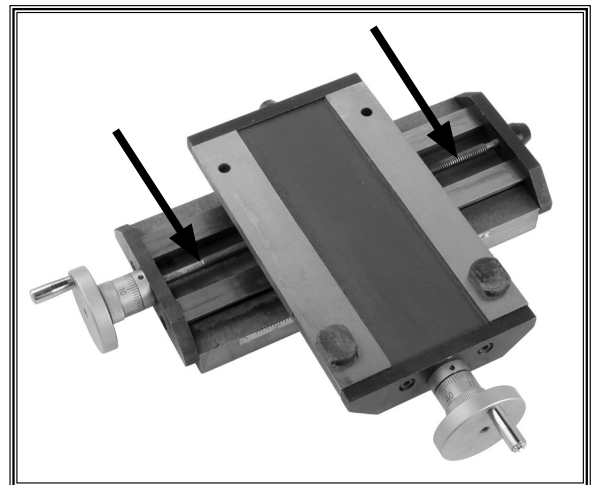

Figure 27. Longitudinal leadscrew.
- Longitudinal leadscrew (**Figure 27**)